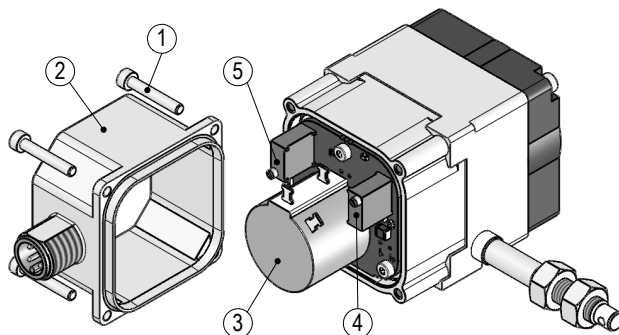

Fig. 10: Adjustment of the trimmpotentiometer 4/20mA; MWIHP
Via two trim potentiometers Pe (3) and Po (4) (see Fig. 10) these values can be adjusted to the application's actual start and end position.